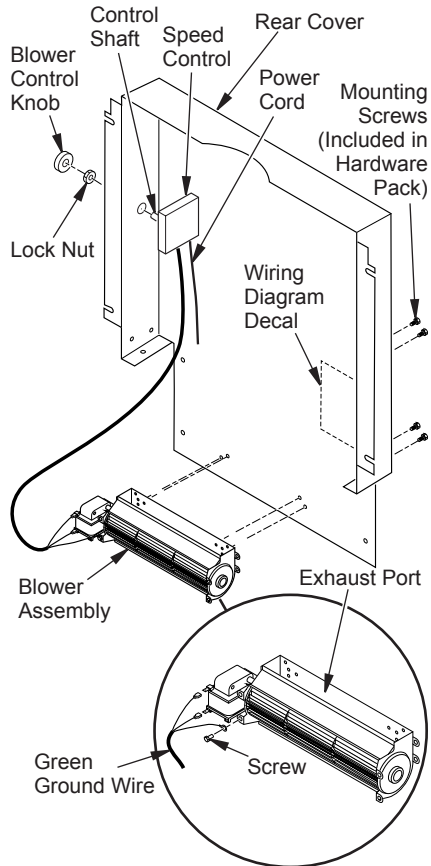

Figure 25 - Installing Optional Blower Accessory
3. Align the holes in the top mounting tabs of blower with the holes in wall of rear cover (see Figure 25, page 11). Using the 4 screws provided, mount blower and tighten screws securely.
5. Attach green ground wire from power cord to blower housing using screw provided (see Figure 25, page 11). Tighten screw securely.
7. Place speed control on left inside of rear cover and push the plastic control shaft through opening (see Figure 25).
8. While supporting speed control, secure control shaft with lock nut by pushing and turning lock nut with pliers clockwise until tight against the side of rear cover. Place control knob provided onto shaft (see Figure 25).
11. Peel off the backing paper and stick the supplied wiring diagram decal on the inside of rear cover as shown (see Figure 25).
13. Reattach bottom cover to rear cover with 8 screws (see Figure 25). Make sure that you don't pinch any wires during reassembly.
14. Secure rear cover to back of stove chassis (see Figure 25).